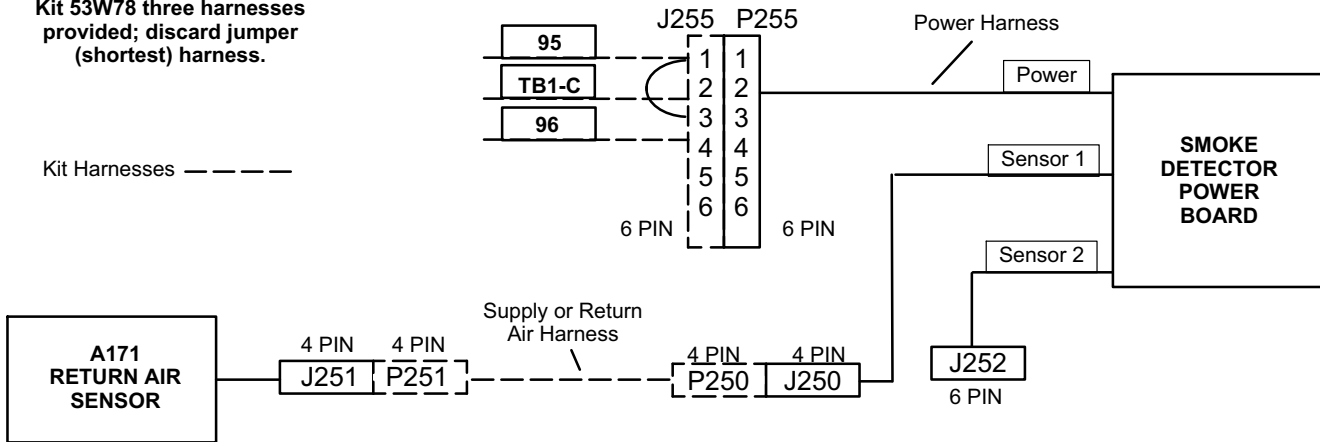

**FIGURE 8**
- 3 - Route harness wires to the top of the unit. Secure to existing bundle of wires and route to control area above compressor. See figure 8. Make sure wires are secured away from other components.
The kit jumper harness is used in single supply air applications only. Route harness as shown in figure 8. Discard harnesses in other applications.